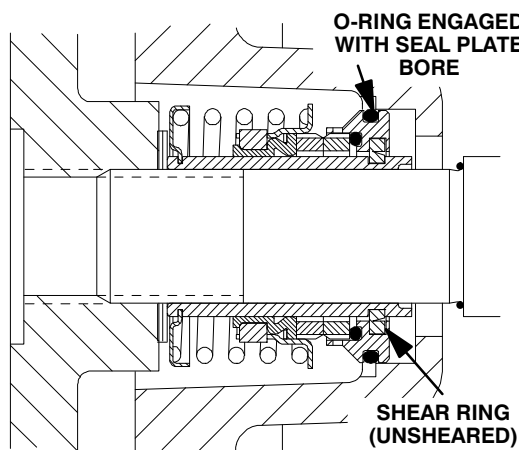

Figure 16. Seal Partially Installed
Clean and inspect the impeller as described in **Impeller Installation and Adjustment**. Install half of the set of impeller shims (3) provided with the seal, and screw the impeller onto the shaft until it is seated against the seal (see Figure 16).